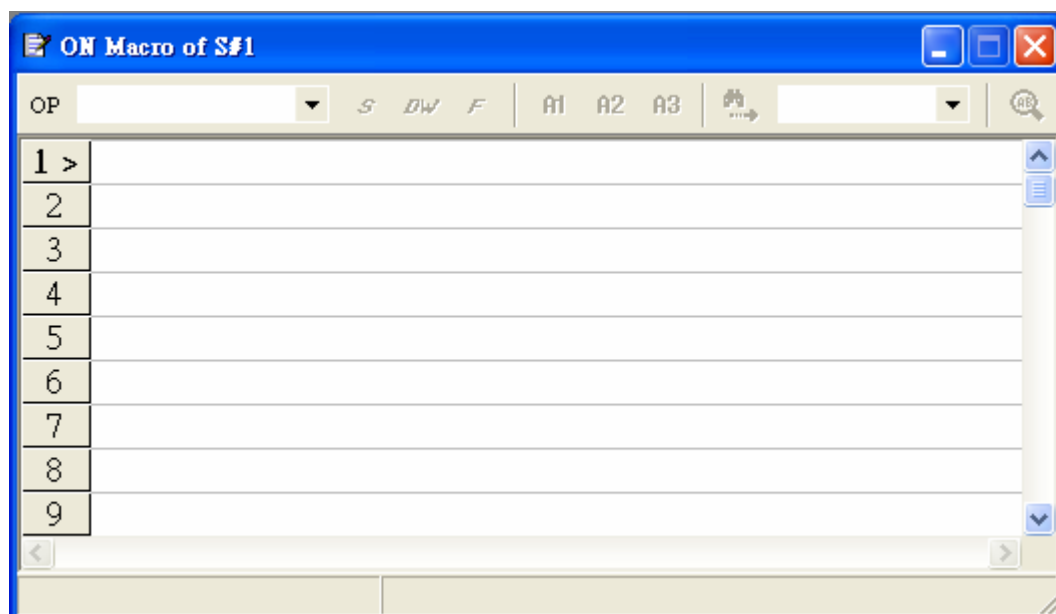

Figure 104. The [ON Macro] Edit Window
- [Macro] Block : Check the [Use ON Macro] for a [Set Button]. When pressed [Edit] button, the [ON Macro] dialog box will appear as in Figure 104 on the screen. For the properties which are not explained in this section, please refer to the Chapter 8 Macro.